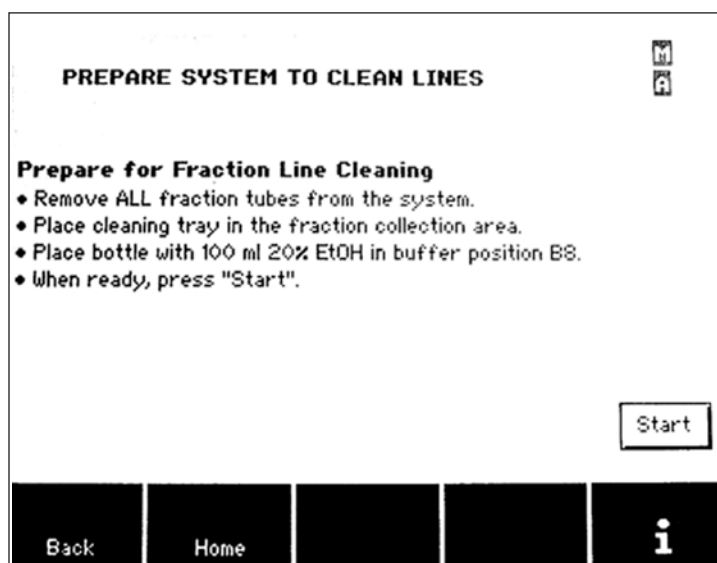

Fig. 9.9. Prepare system to clean fraction lines screen.
4. Follow the directions displayed on the screen (Figure 9.9).